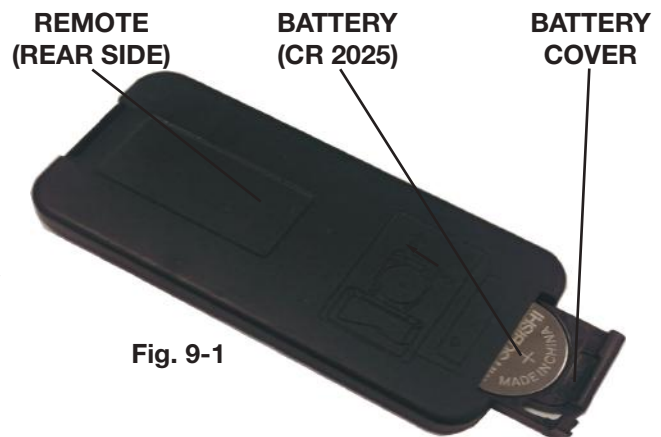

Fig. 9-1
2. To remove the battery holder, turn the remote onto the front side and press the left side lever towards the center while pulling the battery holder out using the slot provided (**Fig. 9-1**).